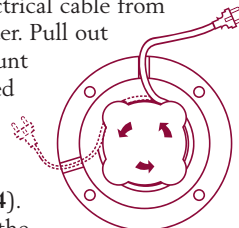

Fig. 4
- To extend the cable, turn the power base upside down and unroll the electrical cable from the cable holder. Pull out the right amount of cable needed to reach the power socket, using the slots provided (fig.4).